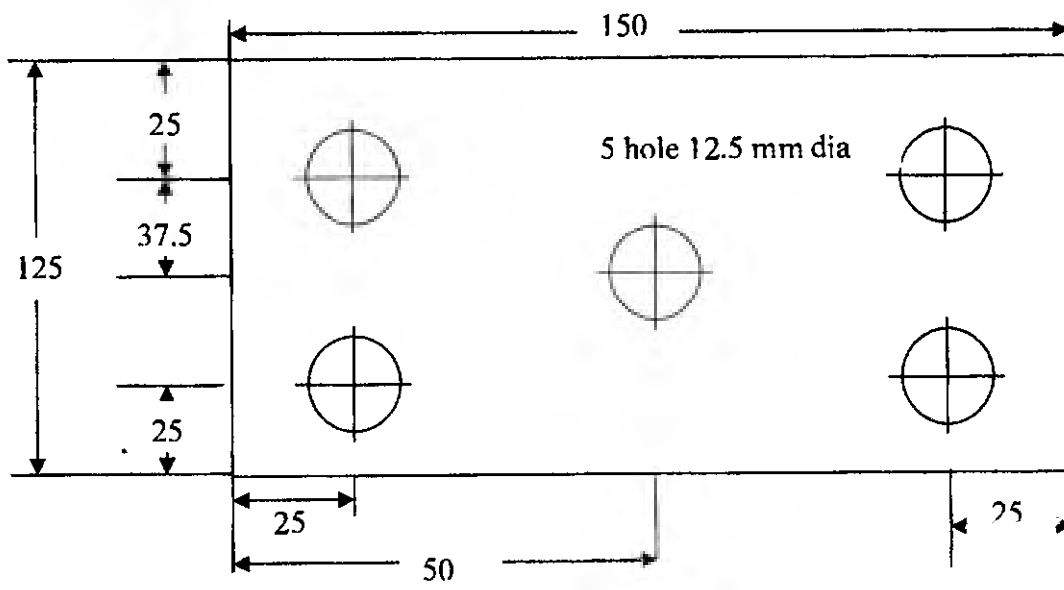

Figure no. 1
Q.6 (a) Write an APT part program for the profile shown in the figure no.1 with cutting speed and feed rate of 500 rpm and 100mm/min respectively. The cutter is of 10 mm dia. Use MACRO statement for drilling operations? [10]